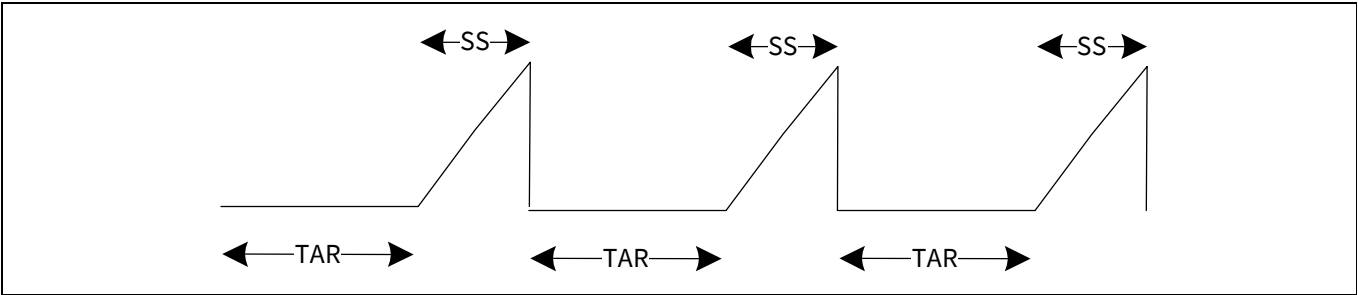

Figure 5 Auto-restart
1. Autorestart: In this mode, EZ-PD™ PAG1P will wait TAR sec before doing a soft start. This sequence is repeated continuously (see Figure 5).